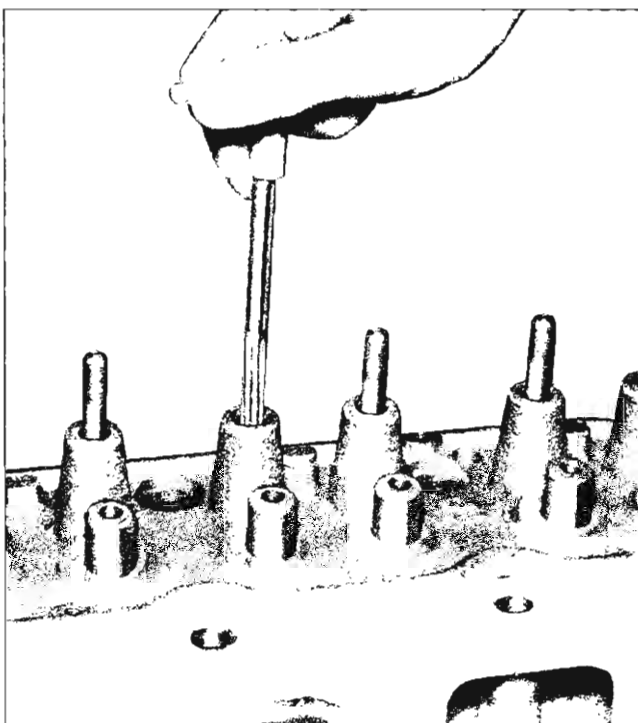

Fig. 18—Reaming Rocker Arm Stud Hole
2. Ream hole for oversize stud, using Tool J-5715 for .003" oversize and Tool J-6036 for .013" oversize (fig. 18).